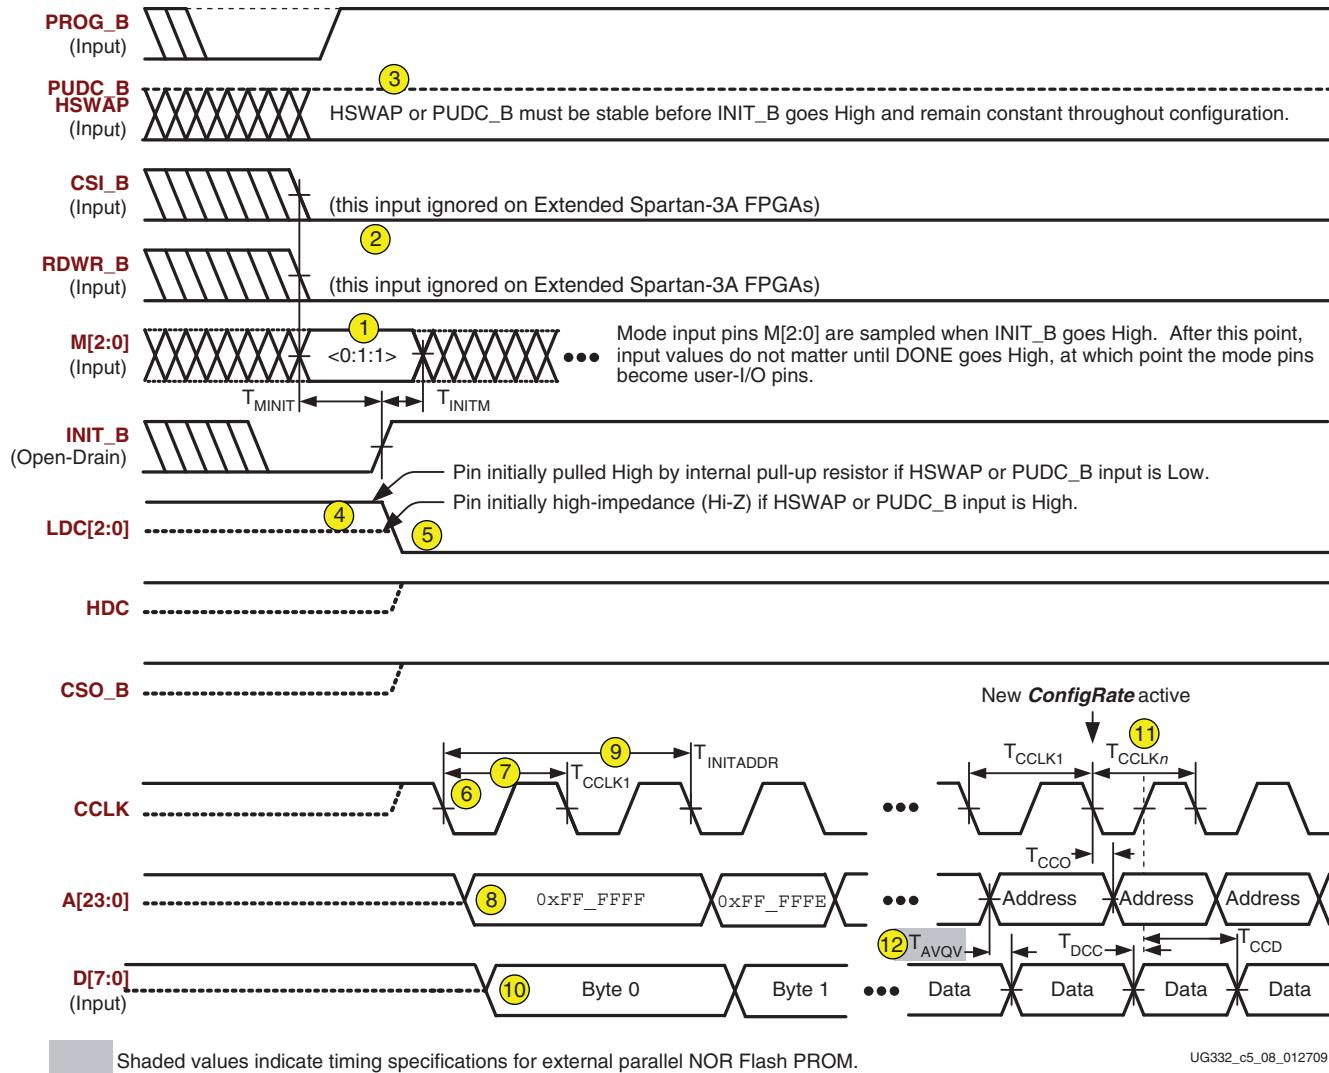

Figure 5-14: BPI Configuration Timing Waveform (Spartan-3E BPI Down mode shown)
Figure 5-14 provides a detailed timing diagram for the BPI configuration mode. The specific diagram is for the Spartan-3E FPGA family, using the BPI Down mode. However, the timing is also similar for the Extended Spartan-3A family FPGA families and for the BPI Up mode.
The following numbered items correspond to the markers provided in **Figure 5-14**.
3. The **HWSAP** or **PUDC_B** pull-up resistor control input must be setup and valid before the rising edge of **INIT_B**. Similarly, the example in Figure 5-14 shows the pull-up resistors enabled.